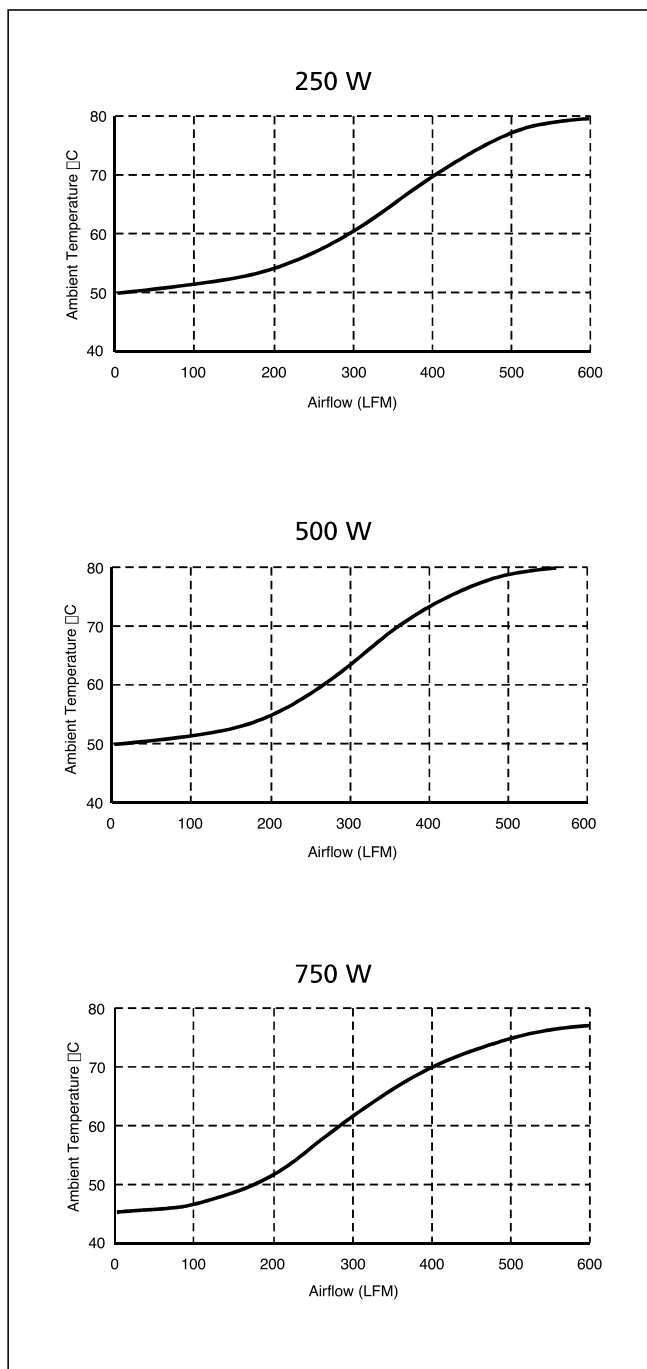

**Figure 16-2** — Maximum ambient temperature vs. airflow (LFM) over cover (full load, 90 Vac Input, chassis mount)
- Ambient temperature must be less than 50°C in free air. Temperature may exceed 50°C with moving air. (refer to derating curves in Figure 16-2)